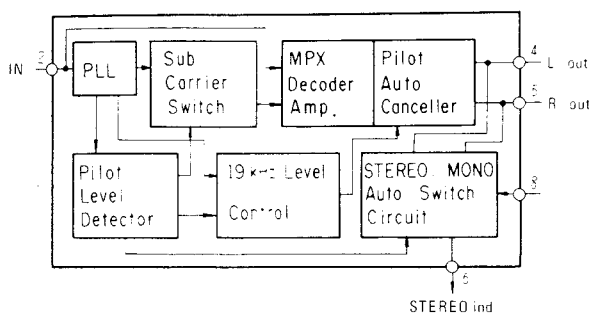

Fig. 3 Block diagram of PA1001-A
1. The FM multiplex decoder is a PLL (Phase-Locked Loop) MPX IC (PA1001-A). Its block diagram is given in Fig. 3.